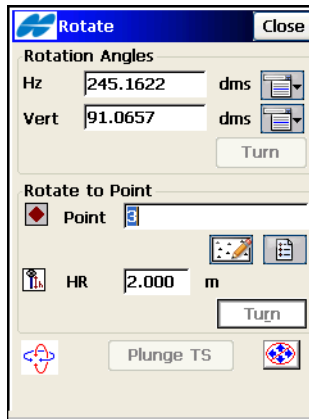

Figure 8-46. Rotate
4. Enter the following rotation angles on the *Rotate* screen (Figure 8-46 on page 8-43).